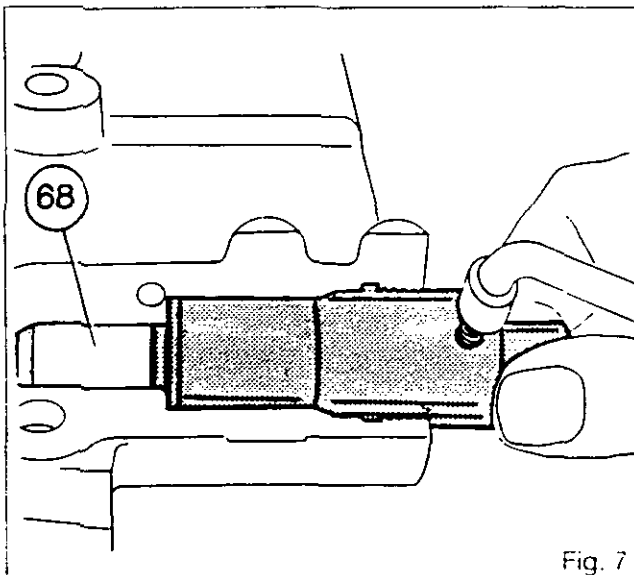

Fig. 7
11. Make sure that the outer tube of the tool is in contact with the shoulder in the cover and that its inner tube is bearing against rod (68) (Fig.7).